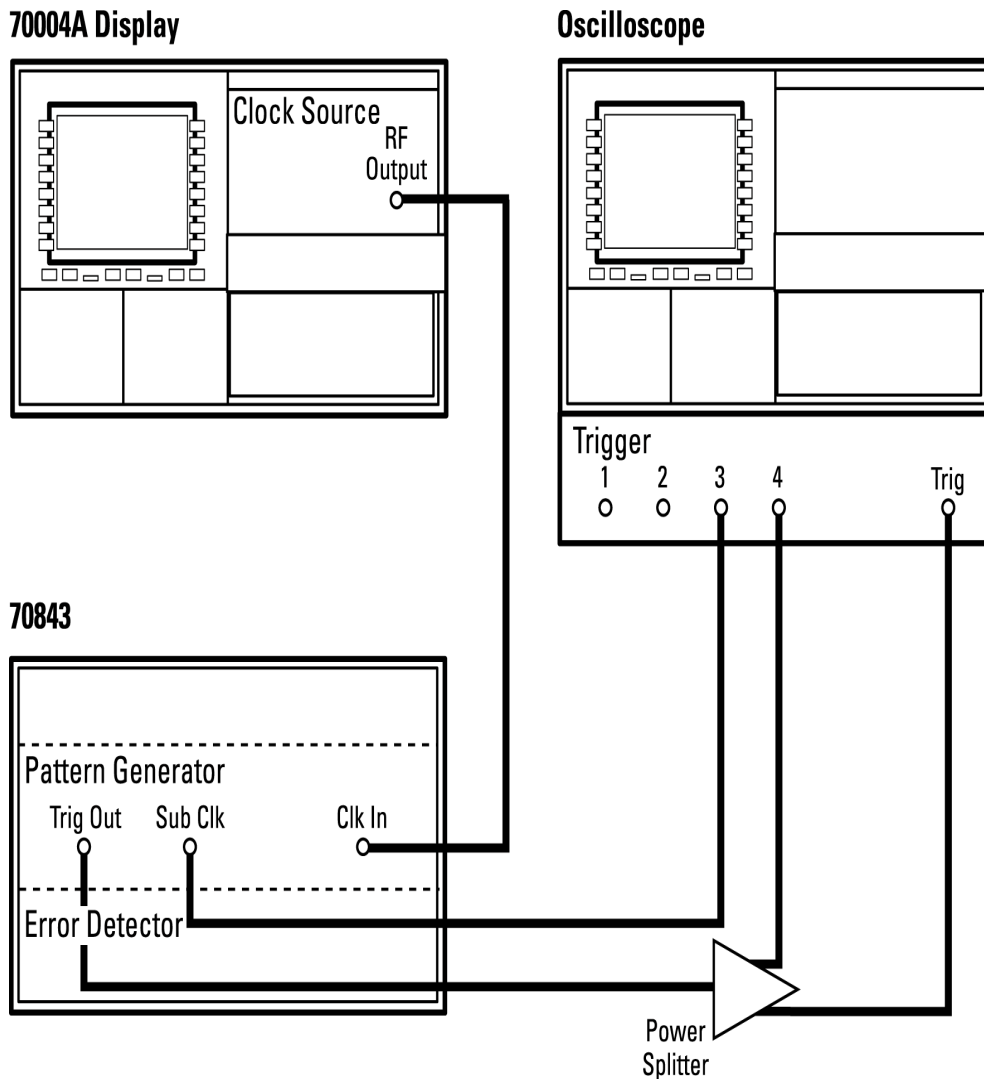

Figure 11-6
1. Connect the equipment as shown in Figure 11-6.